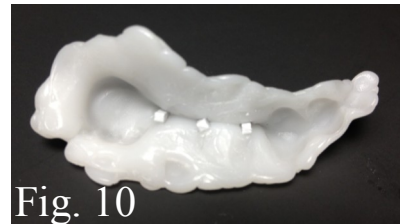

Fig. 10
7. Remove the baseplate from the model (Fig 10).
8. Trim the SG™ Radiopaque Marker(s) to the same height as the mucosa surface (Fig.10).